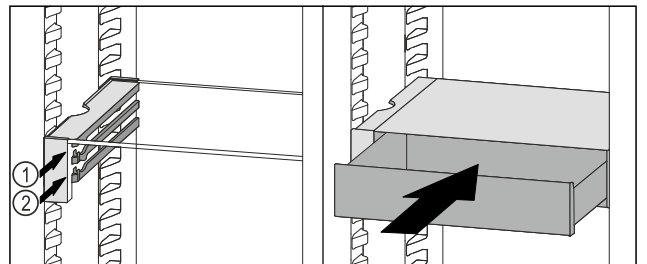

Fig. 86
- ▶ Place the VarioSafe drawer behind the stoppers on desired rib Fig. 86 (1) or Fig. 86 (2).